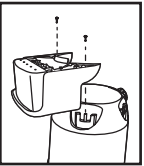

FIGURE 4
2. Take accessory caddy and place into slots located on rear of tank (opposite of drain). Secure with screws provided. **FIGURE 4.**